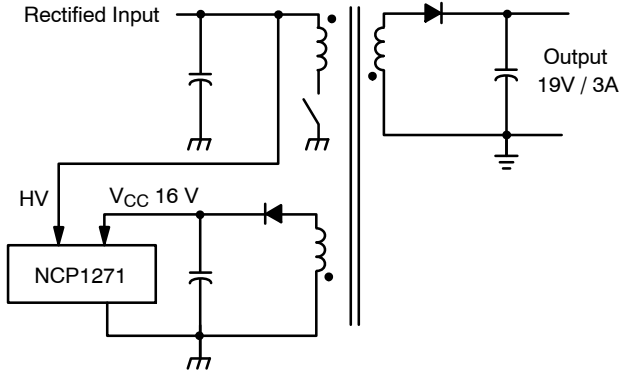

Figure 6.  $V_{CC}$  Biasing Scheme
The NCP1271 includes a high voltage (HV) startup pin (Pin 8) which charges  $V_{CC}$  to its operating level. This pin can be directly connected to the high voltage DC bus. Once the device is powered up, an auxiliary winding powers  $V_{CC}$  as shown in Figure 6.